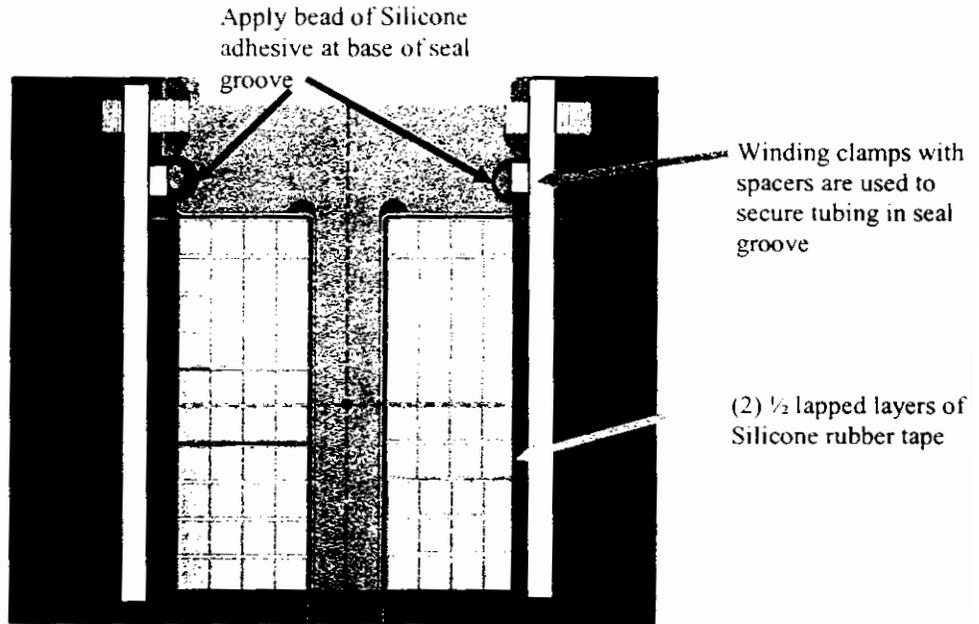

Figure 24-Bag Mold Plan
- 6.33.8 Apply (2) half-lapped layers of the silicone rubber tape over the modular coil bundle chill plate and cooling tube assembly. The silicone tape extends from the Side "A" seal groove across the top to the Side "B" seal groove. Apply bead of adhesive RTV caulking in the seal groove prior to positioning the silicone tape. (Figure 24-Bag Mold Plan)
- 6.33.9 Hold the silicone rubber bag mold in the groove using 5/16" refrigeration tubing. Use the winding clamps with spacers to hold the tube in place. (Figure 24-Bag Mold Plan)